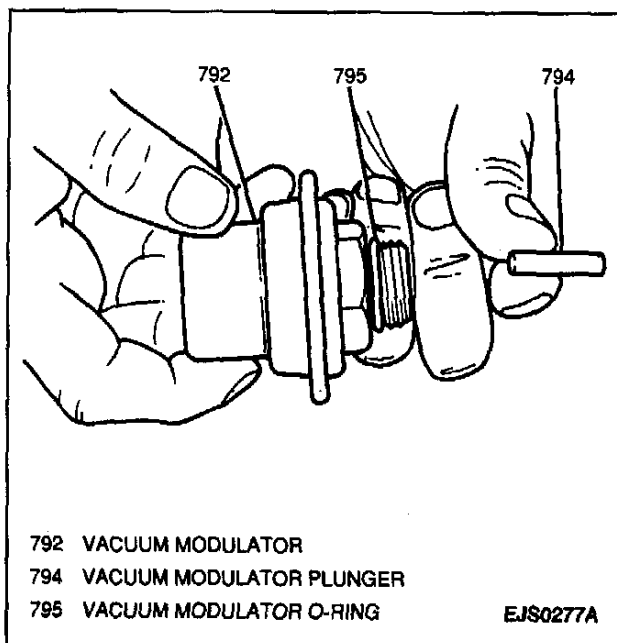

Figure 36—Inspecting Vacuum Modulator (3L30, 3-Speed)
3. Vacuum modulator and plunger from transmission using a J 23100 (Figure 36).
1. Vacuum modulator for leakage by removing the vacuum modulator plunger from the vacuum modulator and observing any transmission fluid that drains out of the vacuum modulator. If transmission fluid is present in the vacuum modulator, replace the vacuum modulator (Figure 36).
2. Vacuum modulator and modulator plunger into transmission using a J 23100 (Figure 36).